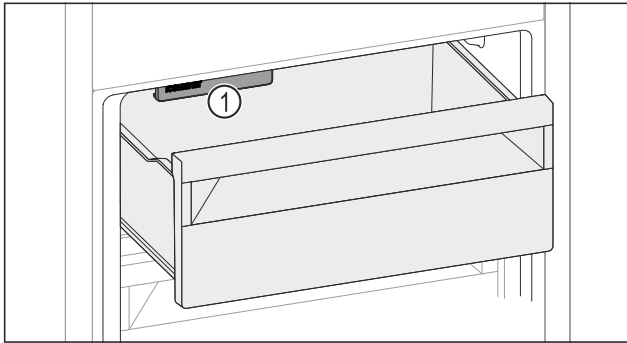

Fig. 143
- ▶ Watch out for the IceMaker Fig. 143 (1).